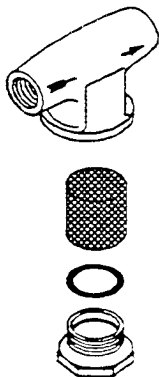

Figure 4-1. Strainer
2. Unscrew the filter cap from the bottom of the strainer which is located in back of the steamer. Refer to Figure 4-1.
3. Remove the filter screen and wash it with dean water. Refer to Figure 4-1.